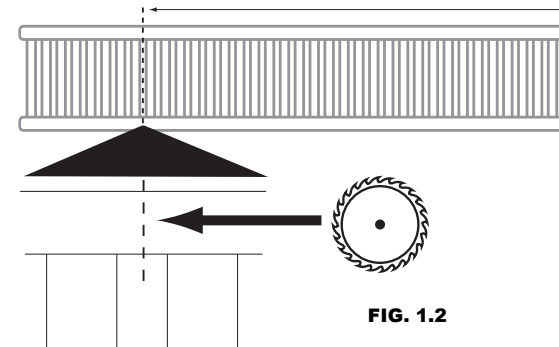

FIG. 1.2
Shelf lengths and Wardrobe Bars may need to be cut depending upon configuration desired. Please refer to Fig. 1.2 for recommended cut location.
4. Using the length measurements for the **TOP (A)** shelf obtained from your selected configuration (refer to selected configuration layout), measure and cut to length if required. (See Fig. 1.2 for recommended cut location). (Note: Cut at center of line during shelf cut. If cut location lands on a shelf slat, cut at the closest slat opening near line).